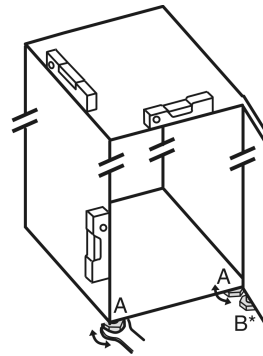

Fig. 34
- ▶ Unscrew the adjustable feet Fig. 34 (A) using the enclosed open-end spanner and a spirit level until the appliance is firmly aligned and level.
- ▶ Unscrew the adjustable foot Fig. 34 (B) on the swap bearing block with the enclosed open-end spanner until it rests on the floor.
- ▶ Turn the adjustable foot Fig. 34 (B) 90° further.